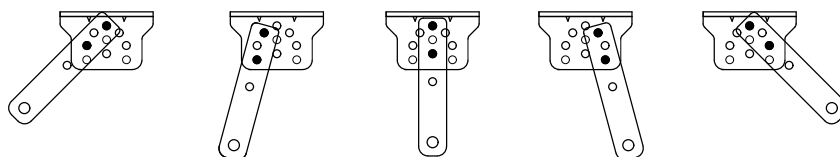

Figure 5
b) The connecting bracket and the wall bracket can be connected according to different conditions, please refer to figure 5.